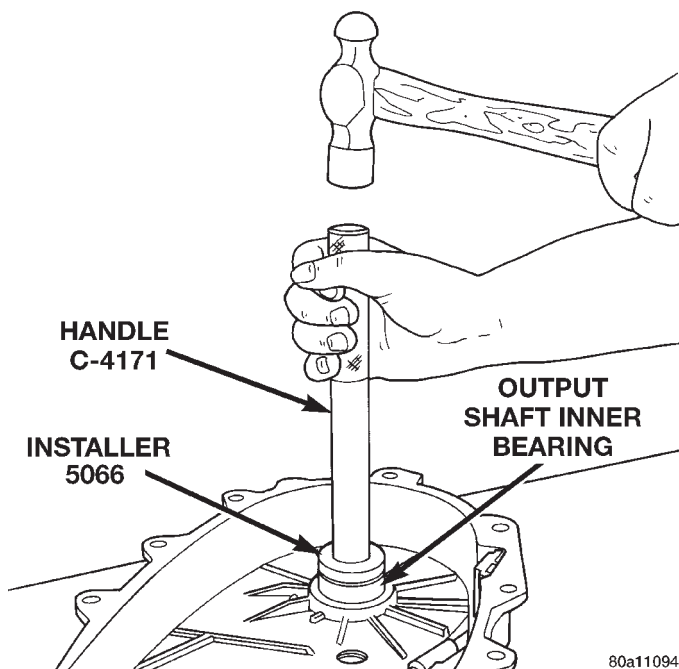

Fig. 61 Output Shaft Rear Bearing Installation
(17) Install new bearing with Tool Handle C-4171 and Installer 5066 (Fig. 61). The bearing bore is